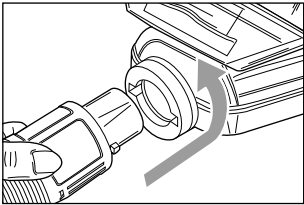

Fig. 2
- Mount the handle (H) onto the suction device (M) by slightly pressing it until the handle notch perfectly fits inside the apposite slot on the suction device. Slightly pull to make sure the parts are properly assembled.
- Insert the suction device (M) into the air inlet opening (G) by slightly rotating it until it locks (Fig. 2).